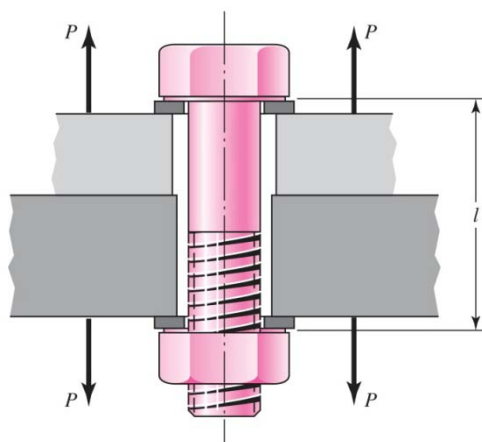

Figure 2(a)
2. (a) By referring to Figure 2(a), show that